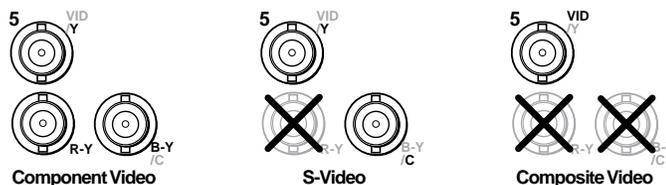

Figure 2-4 — Connections for input 5 video formats
- ③ **Input 5 video connectors** — Connect a component video, S-video, or composite video source to these female BNC connectors. Figure 2-4 shows how to connect the various video formats.